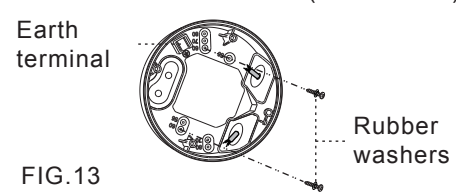

FIG. 13
3.4.3.3 Choose proper knockouts to fix the junction box on the surface of ceiling board with 2pcs wood screws attached with rubber washers (See FIG.13).
3.4.3.4 Refer to wiring diagrams for correct wiring connection (See FIG.5). There is a square hole in the fixing plate, when you put the fixing plate into the junction box, please fit the fillister to the junction box's protrusion (See FIG.8), then fix the detector head on the power box following FIG.13 and assemble them with the attached 4pcs non-dropping screws.